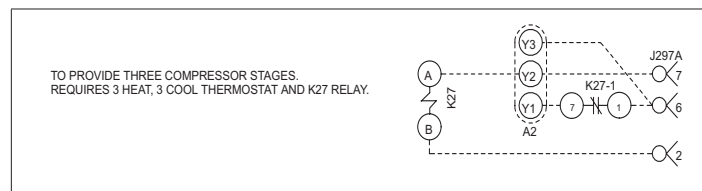

Figure 27. Third-Stage Cool (Parameter 111) Wiring
- **Option 3. Three Cooling Stages:** Cooling operation is shown in “Table 8. XION Thermostat Mode Operation (Three Cooling Stages Parameter 111)” on page 25; this option requires the use of a three-stage cool thermostat and a K27 relay. See wiring pictorial in “Figure 27. Third-Stage Cool (Parameter 111) Wiring” on page 24 and C section control wiring diagram.